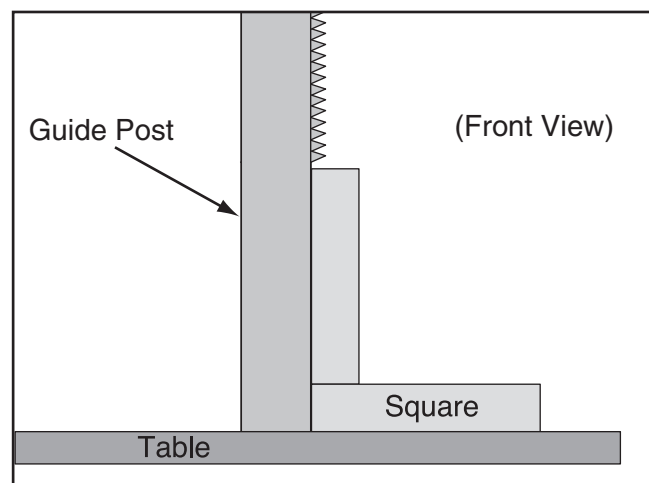

Figure 97. Example of checking guide post squareness.
3. Place a machinist's square on the table next to the right hand side of the guide post, as shown in **Figure 97**.